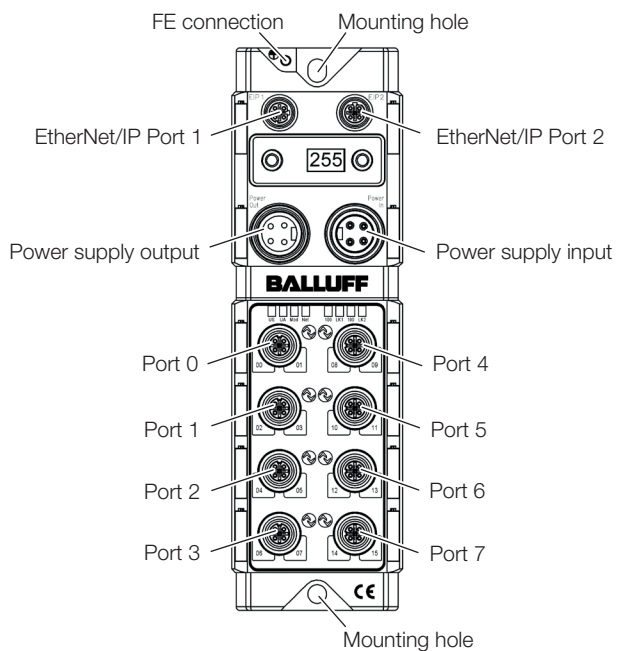

Fig.4-2: Device overview
- Fasten the module with 2 M6 screws and a maximum tightening torque of 3 Nm using the mounting holes (see Fig.4-2 on page 7).